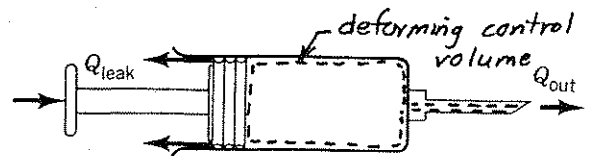

FIGURE P5.30
5.30 A hypodermic syringe (see Fig. P5.30) is used to apply a vaccine. If the plunger is moved forward at the steady rate of 20 mm/s and if vaccine leaks pass the plunger at 0.1 of the volume flowrate out the needle opening, calculate the average velocity of the needle exit flow. The inside diameters of the syringe and the needle are 20 mm and 0.7 mm.